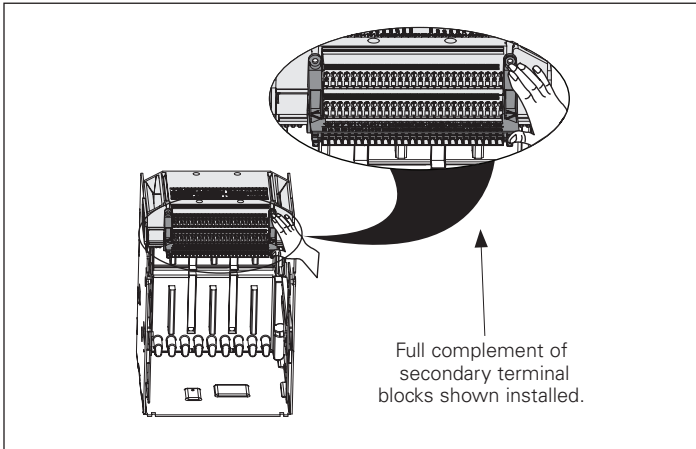

Figure 2. Cassette mounted terminal blocks (NF frame).
KEEP IN MIND THAT SECONDARY TERMINAL BLOCKS ASSOCIATED WITH DRAWOUT CIRCUIT BREAKERS ARE DIN RAIL MOUNTED ON THE BREAKER'S DRAWOUT CASSETTE (FIGURE 2). ACCESSORY SECONDARY PLUGS PLUG INTO A SECONDARY PLUG HOUSING MOUNTED ON THE TOP FRONT OF THE CIRCUIT BREAKER. AS SUCH, SECONDARY CONNECTIONS ARE AUTOMATICALLY MADE OR DISCONNECTED DURING THE LEVERING (RACKING) PROCESS AS THE SECONDARY PLUG HOUSING ON THE BREAKER ENGAGES OR DISENGAGES THE SECONDARY TERMINAL BLOCKS MOUNTED ON THE DRAWOUT CASSETTE. FOR THIS REASON, ACCESSORY SECONDARY PLUGS DO NOT HAVE TO BE UNPLUGGED TO ADD OR REMOVE TERMINAL BLOCKS.
Step 1. Become familiar with the drawout terminal block (see Figures 2 and 3) and the cassette's DIN rail mounting location.